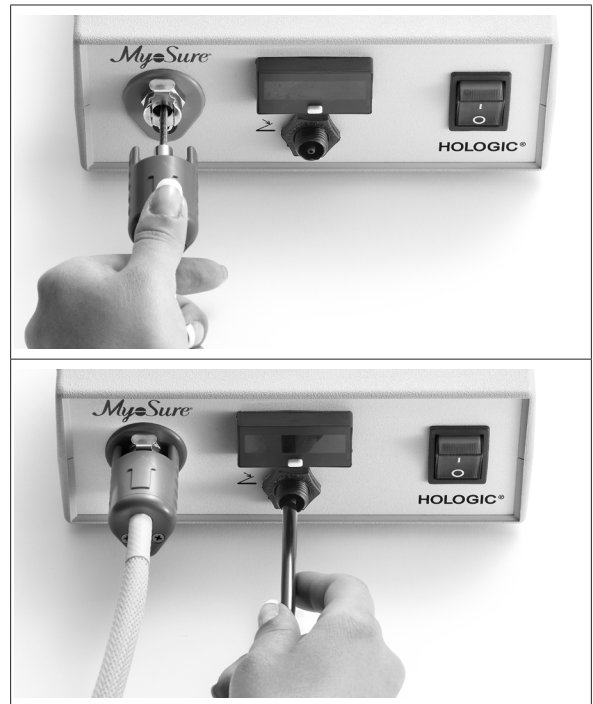

FIGURE 3. INSERT DRIVE CABLE AND FOOT PEDAL INTO CONTROL UNIT
3. Non-sterile person inserts the flexible cable into the corresponding connection on the control unit as shown in Figure 3.